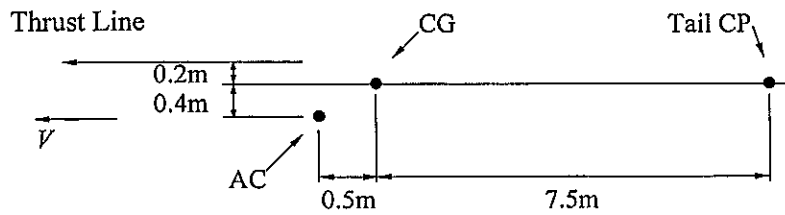

Figure 1
- (b) An aircraft has a total weight $W = 160,000\text{N}$, a wing area $S = 50\text{m}^2$, and a mean chord $c = 3\text{ m}$. The drag coefficient is related to the lift coefficient by $C_D = 0.02 + 0.04C_L^2$. The pitch moment coefficient about aerodynamic centre (AC) is $C_{M,AC} = -0.035$ (pitch up positive). In a steady level flight of $V = 200\text{ m/s}$ at sea level, the relative positions of the centre of gravity (CG), aerodynamic centre of the whole aircraft less tailplane, and the tailplane centre of pressure (CP) are illustrated in Figure 1. Assume that the air density at sea level is $\rho = 1.223\text{ kg/m}^3$. Draw the free-body diagram, and calculate the lift, drag and tail load during the steady level flight. (10 marks)
Figure 1 appears on page 2.